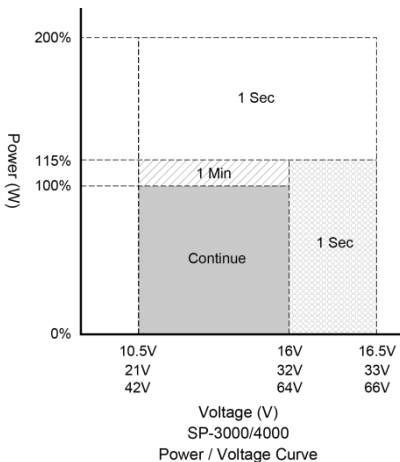
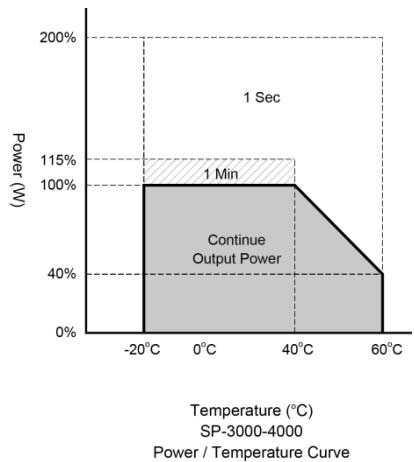

Figure 3. SP-3000/4000
Figure 4. SP-3000/4000
① Voltage range : Please refer to Figure 3
② Normal load Condition : Vin =12.5V/25V/50V, Vo=200/220/230/240 VAC 80% load (PF=1.0)
③ Operating temperature : Please refer to Figure 4
④ **Warning** : This is a class A product. In a domestic environment this product may cause radio interference in which case the user may be required to take adequate measures.
② Normal load Condition : Vin =12.5V/25V/50V, Vo=100/110/115/120 VAC 80% load (PF=1.0)
- ① Voltage range : Please refer to Figure 3
- ② Normal load Condition : Vin =25V/50V, Vo=200/220/230/240 VAC 80% load (PF=1.0)
- ③ Operating temperature : Please refer to Figure 4
- ④ **Warning** : This is a class A product. In a domestic environment this product may cause radio interference in which case the user may be required to take adequate measures.